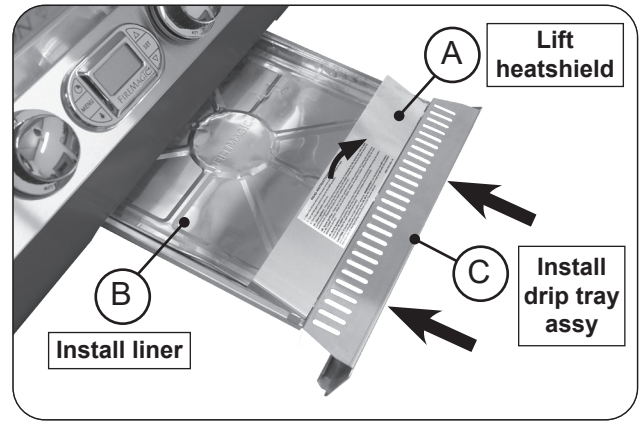
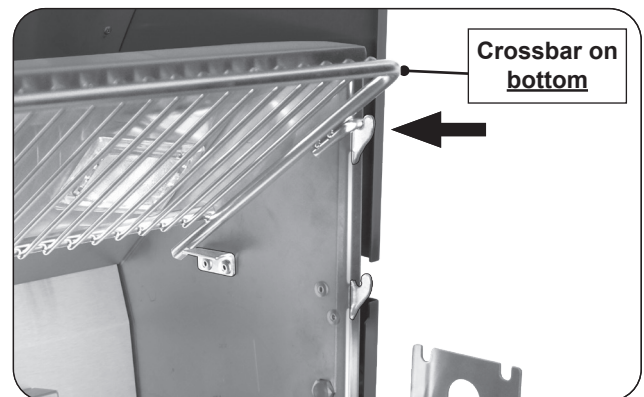

Fig. 25-1 Install drip tray
Fig. 25-4 Place warming rack in storage position
1. Lift the heatshield slightly, then place a liner into the drip tray (Fig. 25-1, A and B).
2. Then fully insert the drip tray assembly into the bottom front opening of the control panel (Fig. 25-1, C).
Use the top hooks for storage (see Fig. 25-1 and Fig. 25-4).